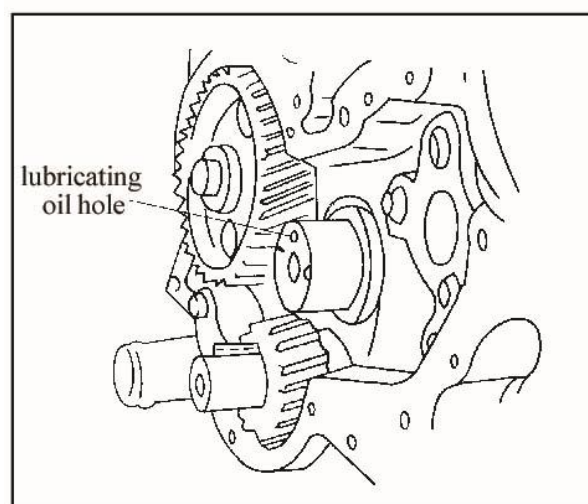

Figure 3-27 Lower idling gear assemble
(2) Set lubricating oil hole on lower idling gear shaft upwards when reassembling (see Figure 3-27).